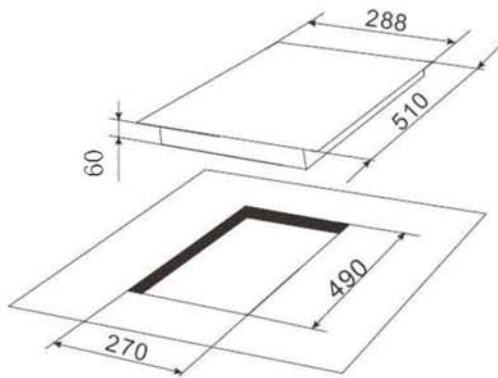
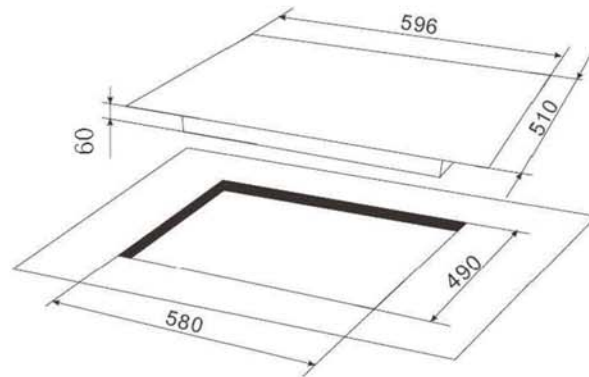

Fig. 1
Fig.2
1. To install the cook top, cut out a rectangular opening in the counter as shown on the drawing of Fig.1 and Fig.2.